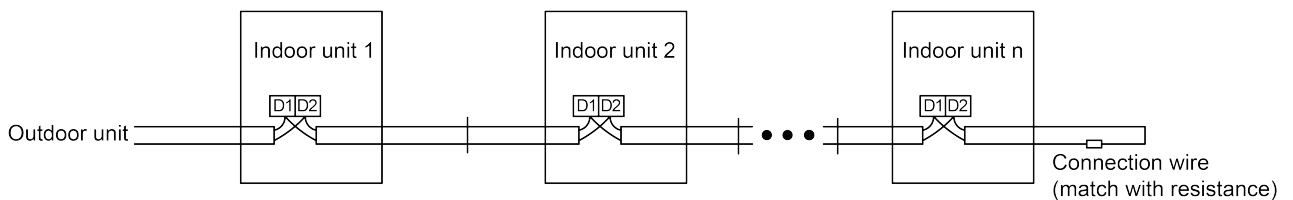

Fig. 5.3.2
- (4) Secure the communication line with the wire clamp on the electric box.
- (5) In order to ensure the reliability of communication between IDU and ODU and the communication among each IDU, add a matched resistance (supplied in a package before ex-factory) on the wiring board of the last indoor unit in a series connection. The matched resistance should be connected in parallel between terminal screw D1 and D2, as shown in Fig. 5.3.2.